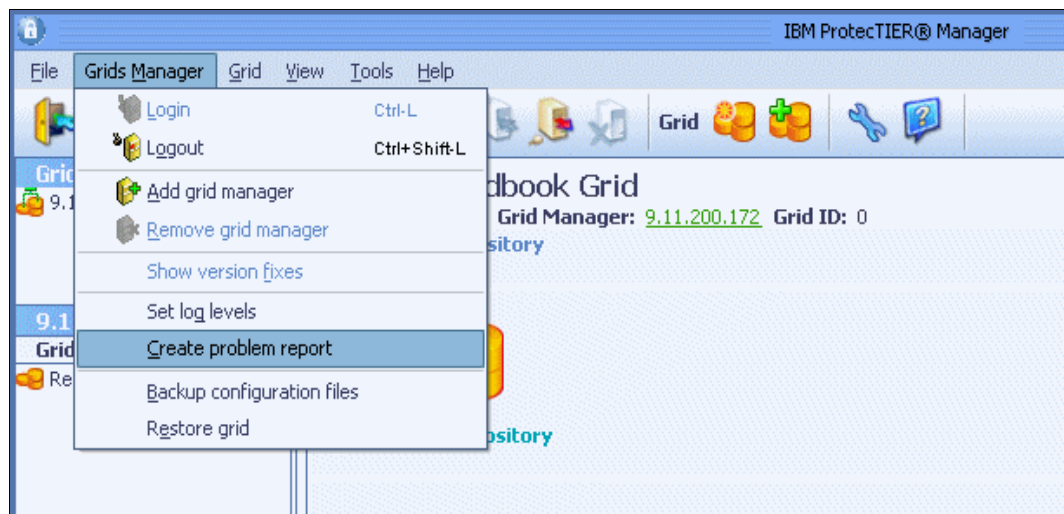

Figure 10-70 Create a problem report in Grids Manager
4. From the menu bar, select **Grids Manager** → **Create problem report** (Figure 10-70).